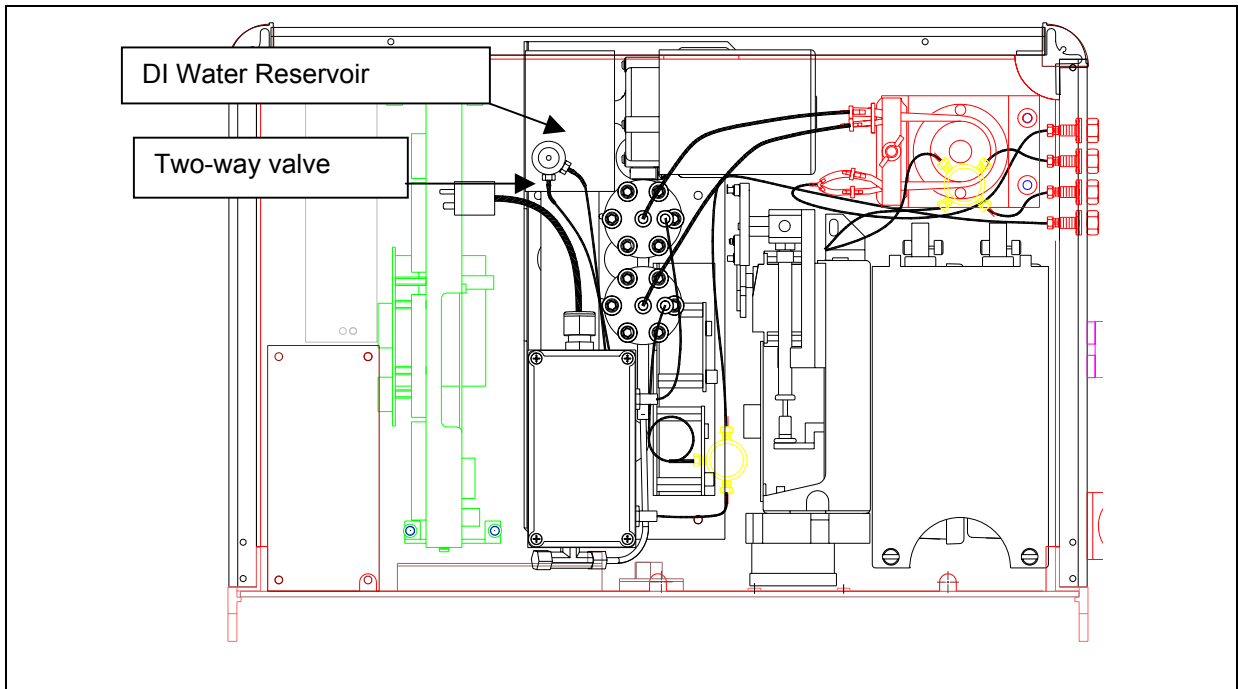

Figure 8-15: Location of DI Water Reservoir in TOC Analyzer
2. Open the analyzer top panel by pushing back on the two black latches and lifting the panel upward. The DI reservoir is the black plastic box with a valve and two fittings attached on top. The valve is located between the resin bed and the circulating pump at the back, center of the analyzer (see Figure 8-15).